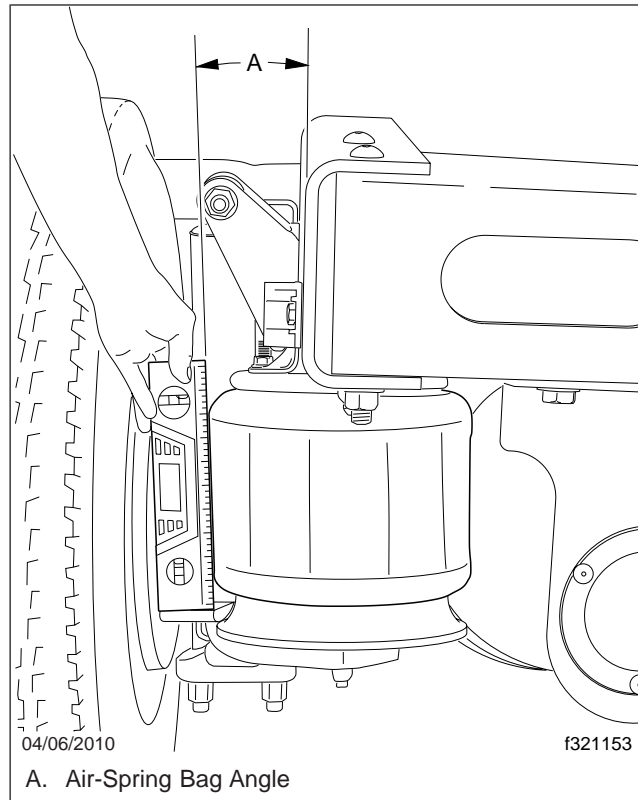

Fig. 2, Checking the Air-Spring Bag Angle
- 2.2 Place the level tool vertically against the outside of the air-spring bag as shown in Fig. 2. If the angle is less than 6.0 degrees the air-spring bag angle is within specifications and no further action is required. If the angle is more than 6.0 degrees from vertical, proceed to the next step.